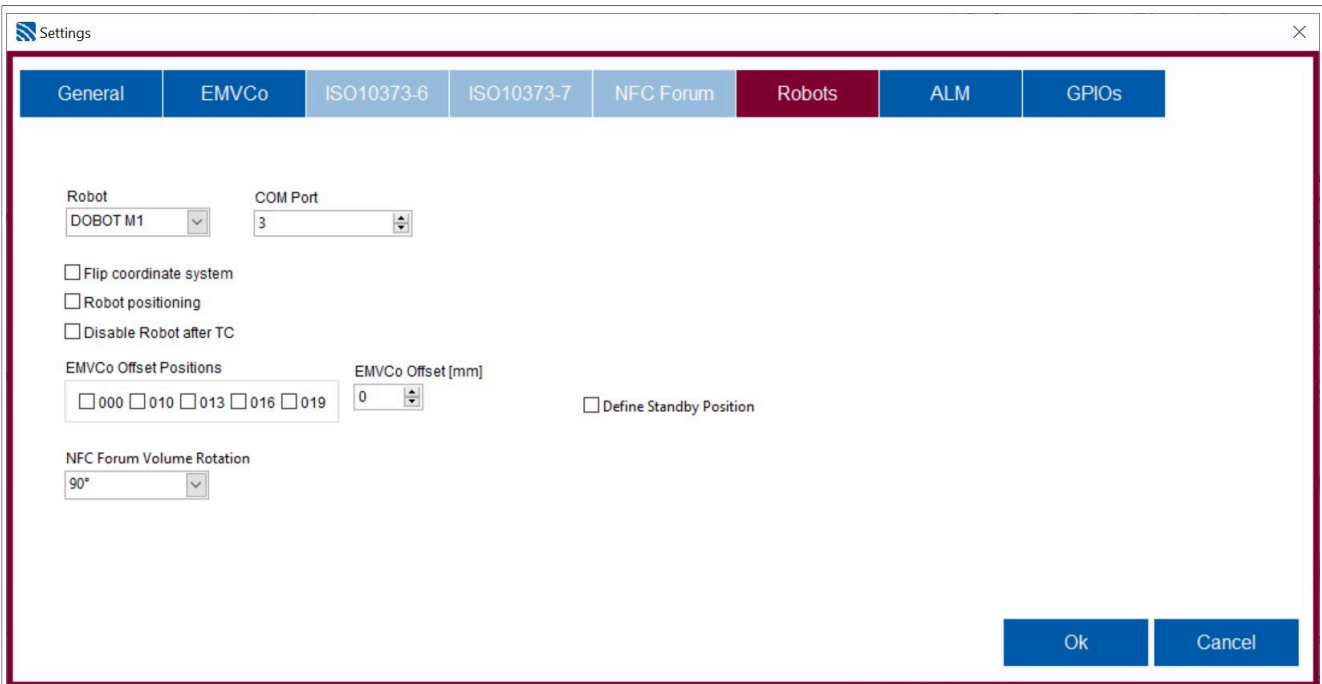

Figure 10. cilab options: Robot positioning
- c. Disable <Robot positioning> in cilab options (see Figure 10).
| Fig. 2. | CMD shell | 4 | Fig. 10. | cilab options: Robot positioning | 11 |